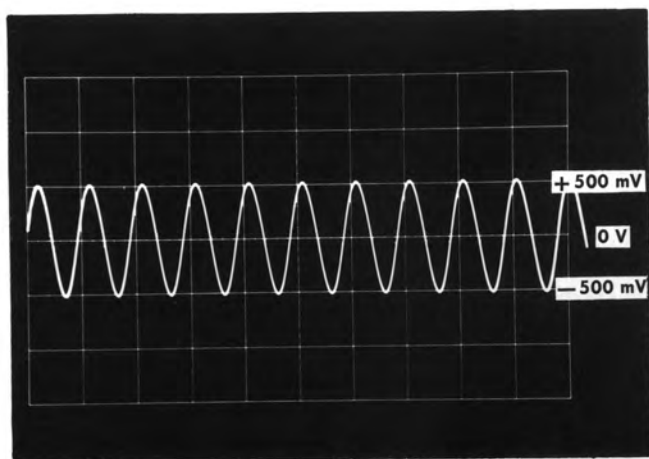

Fig. 6-20. Dynamic range of P6042, test oscilloscope set to 0.5 V/div.
f. Check for an undistorted dynamic range of at least + and -1 cm ( $\geq$  + and -500 mV at probe amplifier output). See Fig. 6-20.